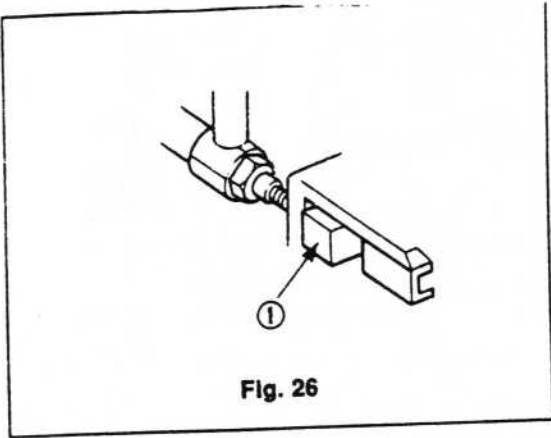

Fig. 26
- (2) Move the dial gauge (1), see Fig. 26) until the end contacts the home position alignment jig shaft (see Fig. 26).
- (3) Set the dial gauge to "0" at the point of contact.
- (4) Return the dial gauge to its original reading and remove the home position alignment jig.